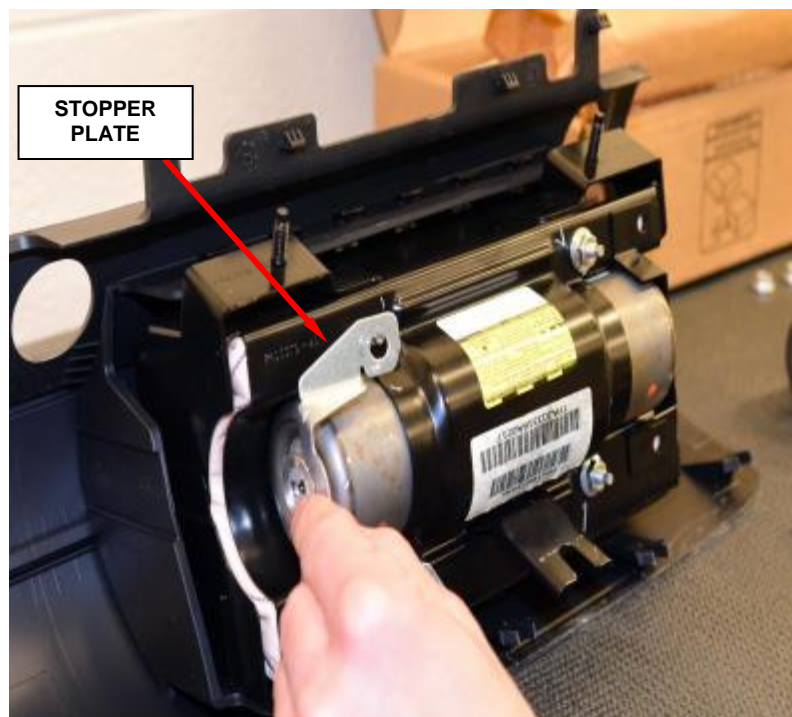

Figure 175 – Stopper Plate
c. Remove and save the stopper plate from the passenger airbag module (Figure 175).